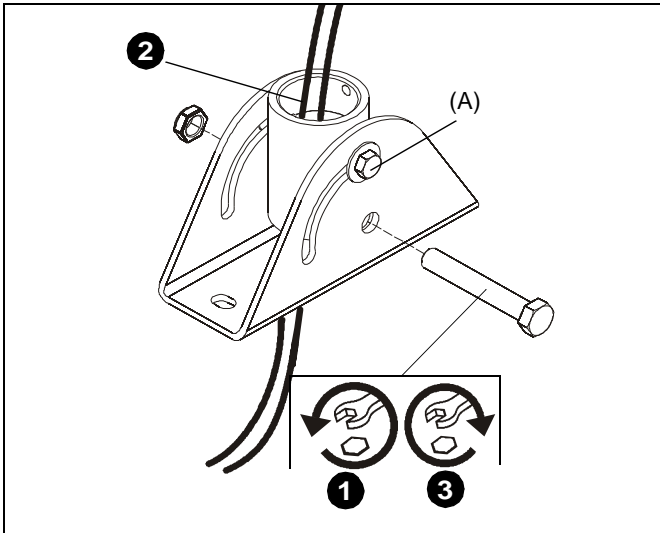

Figure 4
1. If necessary, remove hex head bolt running through pipe channel in order to allow cables to be routed through pipe. (See Figure 4)
2. Route cables through pipe as needed. (See Figure 4)
3. Reinstall hex head bolt and nut after cables have been properly routed. (See Figure 4)